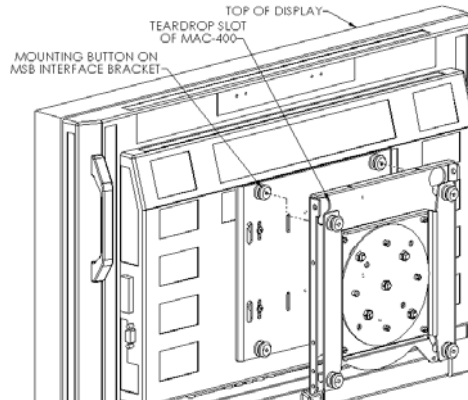

Figure 4
- Attach MAC-400 to MSB Interface Bracket by placing the mounting buttons of MSB into the teardrop slots of MAC-400. Make sure the mounting buttons are placed securely in teardrop slots. See Figure 4.